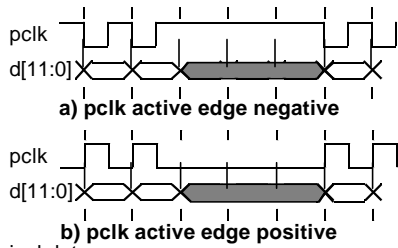

Figure 36. pclk in Data Ready Mode
- In data ready mode, the pixel clock output pin (*pclk*) will produce a pulse with a specified level every time valid pixel data appears on the digital video bus *d[11:0]* as shown in Figure 36.